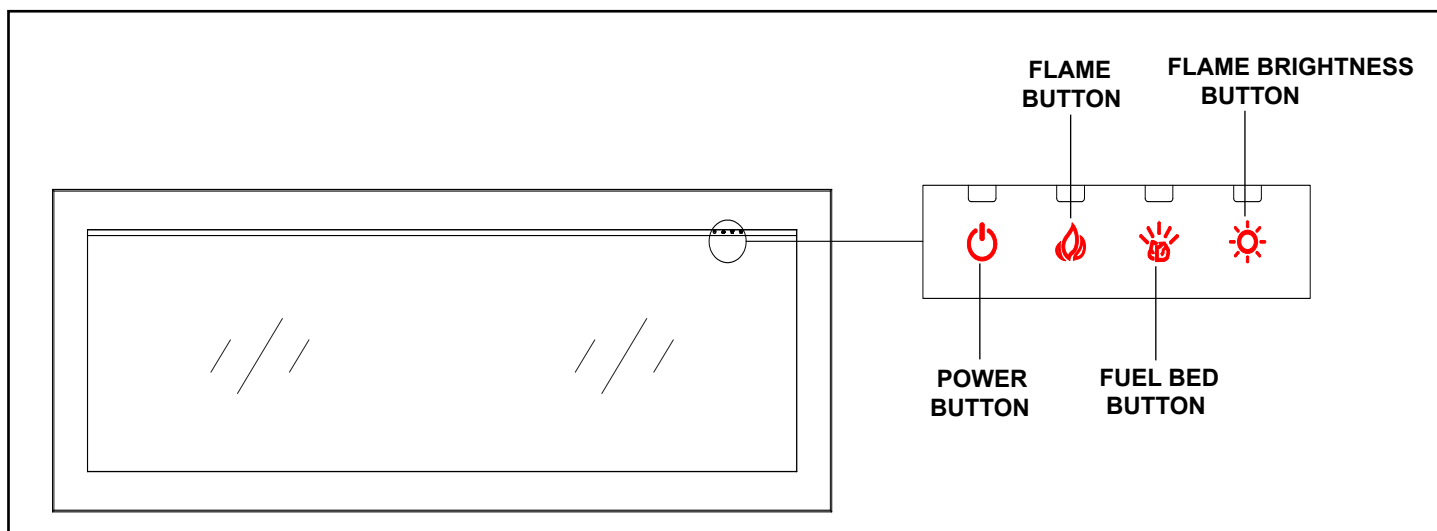

Figure 5.1 Manual Operating
The appliance can be operated by both remote control and manual buttons located on appliance. Once the power is supplied to the appliance, the power button can be pressed a beep should be heard when the appliance turns on. See Figure 5.1.
- The remote control must be within the 16 ft. range and also be pointed directly at the face of the appliance. For best results, point the remote control toward the remote receiver location. See Figure 5.1.